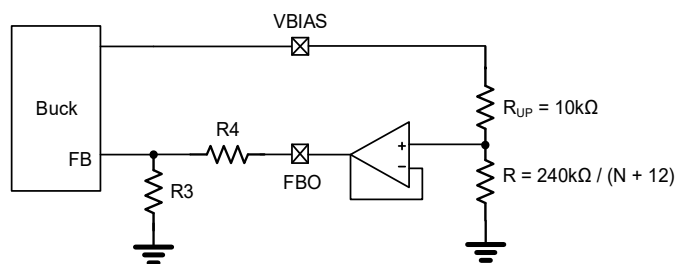

Figure 7: FB Divider Network Set-Up
18. R3 and R4 form a feedback (FB) divider network that uses the AFC function to adjust V_{BIAS_PRE} (see Figure 7).